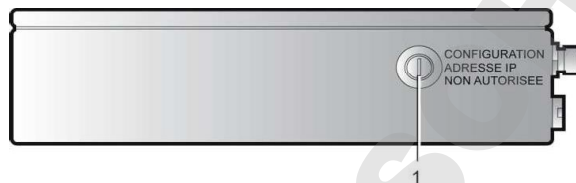

Figure 14-8: The 2-position lock must be in the vertical position to configure the IP address on the Settings page.
1. On the Control System, flip the IP address configuration key (Figure 14-8, 1) in the vertical position.